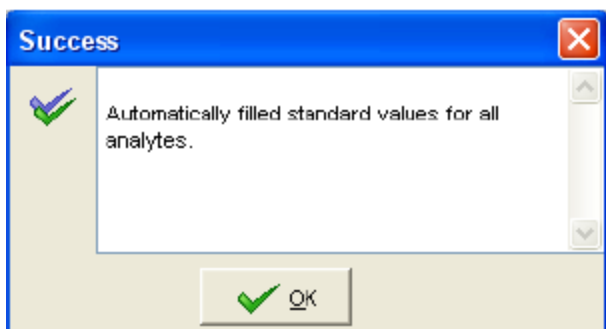

Figure 4.16 Message box confirming autofill
- ⇒ A confirmation message appears (Figure 4.16).